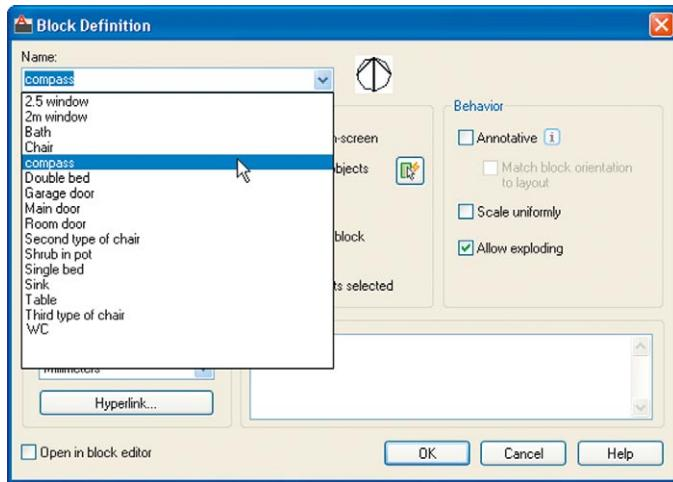

Fig. 9.4 The popup list in the **Name** field of the **Block Definition** dialog
- Repeat items 1 and 2 to make blocks of all the other symbols in the drawing.
- Open the **Block Definition** dialog again and *click the arrow on the right of the Name field*. Blocks saved in the drawing are listed (Fig. 9.4).